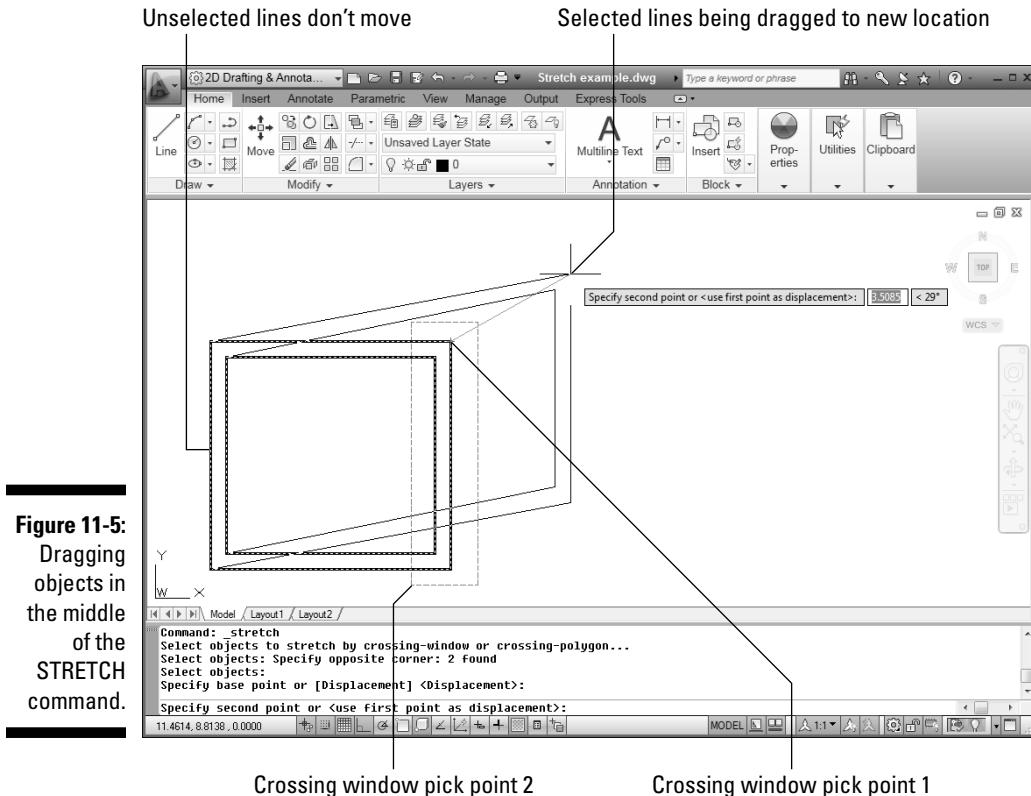

Figure 11-5:
1. **Draw some lines in an arrangement similar to the dark lines shown in Figure 11-5.**
Figure 11-5 shows a sample crossing selection box that completely encloses the two vertical lines on the right side of the figure. This crossing selection box cuts through the four horizontal lines, enclosing only one endpoint of each.
Figure 11-5 shows what the screen looks like as you move the crosshairs around without benefit of ortho or polar tracking.